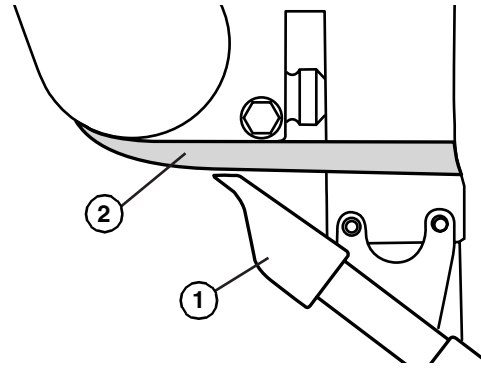

Figure 28
Apply minimal pressure between the scraper (Figure 28, item 1) and the belt (Figure 28, item 2).